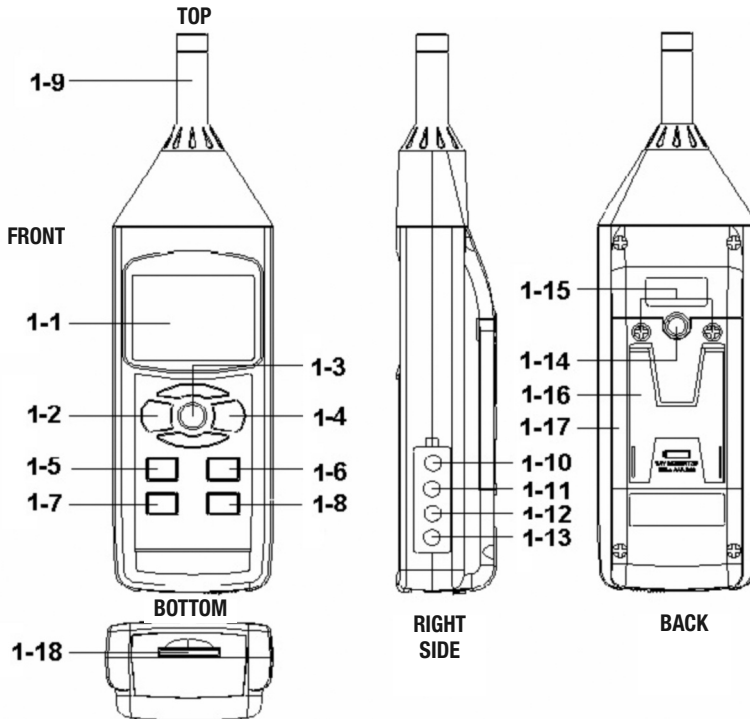

Fig. 1. The DSM403SD's controls and indicators and other physical features
Figure 1 shows all of the controls and indicators on the front, right side, back and bottom of the DSM403SD. Familiarize yourself with the positions and functions of these controls, indicators and connectors before moving on to the Setup Instructions.
1. To prepare for calibration, obtain a sound calibrator and mate its output connector with the head of the DSM403SD’s microphone (callout 1-9 of Fig. 1). Power on the sound calibrator and manually set its range to 50 to 100 dB.
3. **Press the SET button** on the DSM403SD (callout 1-7 of Fig. 1), which has the term “Fast/Slow” stenciled below it. If the word “FAST” is displayed, move ahead to Step 4. If the word “SLOW” is displayed, press the **SET** button again to change “SLOW” to “FAST”.
5. **When the display shows the terms “A”, “FAST” and “50-100”, the instrument is ready to be calibrated. To calibrate the DSM403SD**, set the output of the sound calibrator to 94 dB and carefully turn the calibration screw on the right side of the meter (callout 1-11 of Fig. 1) until the display shows the following: “94 ± 0.2 dB”.